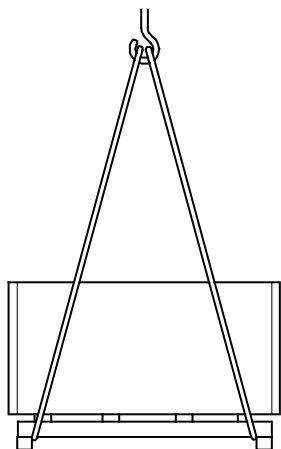

Fig. 23
1. Fasten ropes, belts or multi-point tackle on the pallet as shown in Fig. 23.